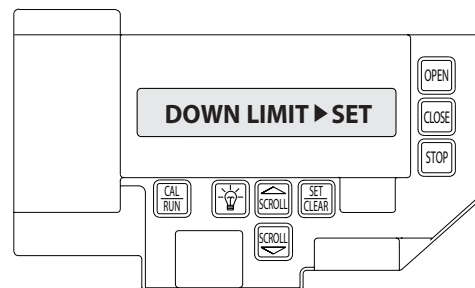

Figure 8
- 4) Press SET/CLEAR  key to switch display to "UP LIMIT>SET " or "DOWN LIMIT>SET ." **Figure 8.**
- 2) Press SCROLL  key until display reads "UP LIMIT>SET " or "DOWN LIMIT>SET." **Figure 8.**